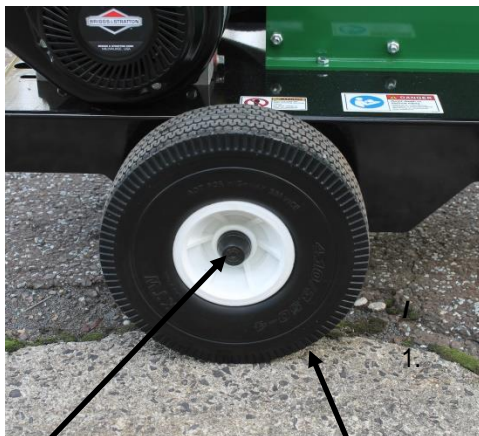

Figure 40
2. Pry the Cap off the axle with a Flat Head Screwdriver (**Figure 40**).